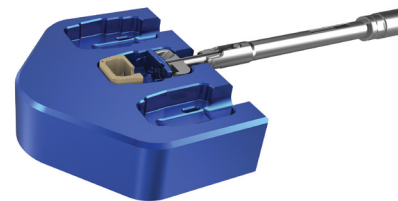

Figure 4
c. Assemble the appropriate Anterior Plate to the Implant Inserter Assembly and assemble the Anterior Plate and Posterior Cage to create the Implant Construct (Figure 4).